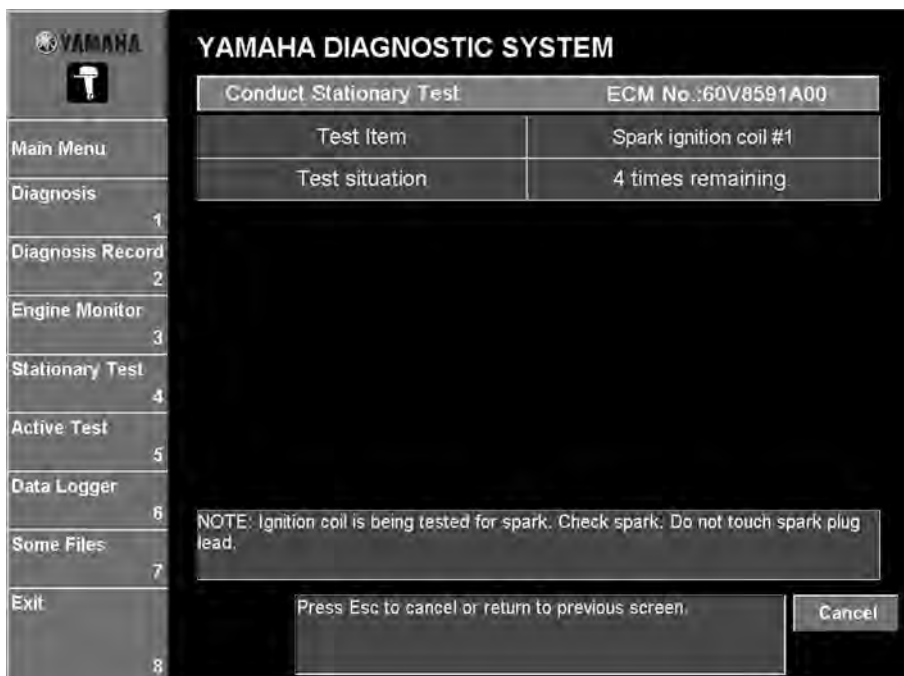

Fig. 68
6. While checking the information that appears in the **Test situation** column, follow the test instructions in the messages that are displayed. (See fig. 68.)
7. To stop the stationary test, click the **Cancel** button. (See fig. 68.)